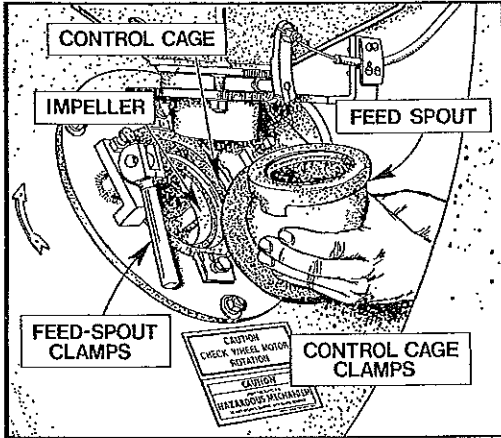

Figure 1. Remove Feed Spout.
- a. Loosen the two feed spout clamps and remove feed spout (FIG. 1).
As viewed from the feed spout side (see FIG. 1):